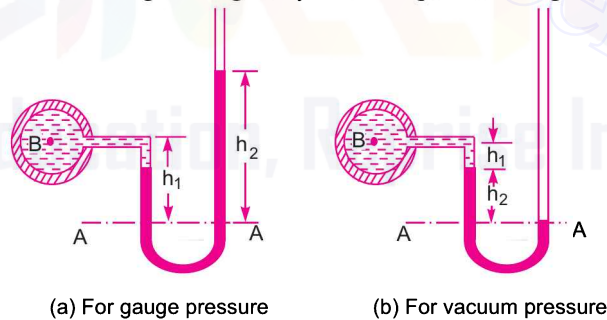

Fig. 2.9 U-tube Manometer.
**2.6.2 U-tube Manometer.** It consists of glass tube bent in U-shape, one end of which is connected to a point at which pressure is to be measured and other end remains open to the atmosphere as shown in Fig. 2.9. The tube generally contains mercury or any other liquid whose specific gravity is greater than the specific gravity of the liquid whose pressure is to be measured.
(b) **For Vacuum Pressure.** For measuring vacuum pressure, the level of the heavy liquid in the manometer will be as shown in Fig. 2.9 (b). Then